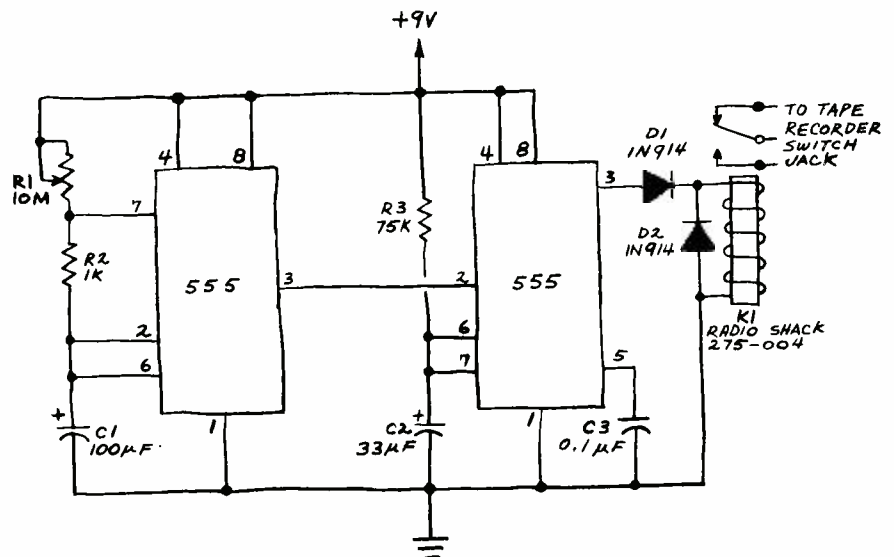
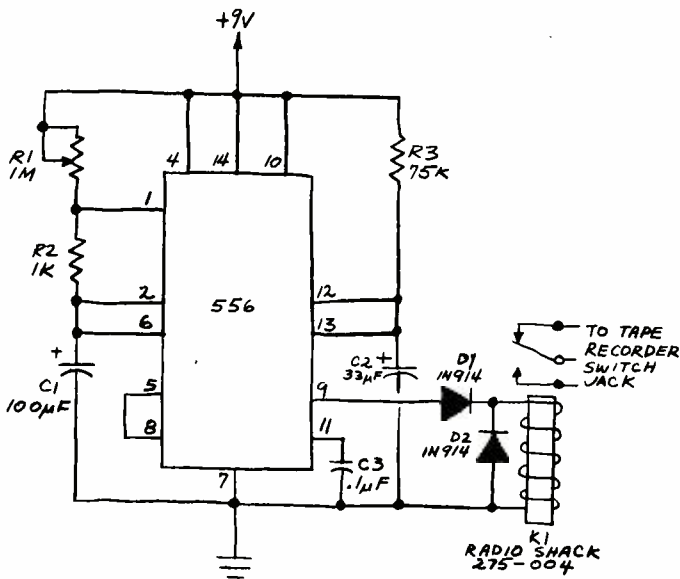

Fig. 3. Interval timer employs one 555 as an astable multivibrator to trigger a second IC operating as a monostable. Relay  $K1$  keys external circuit.
Fig. 4. This circuit, which employs a 556 dual timer, is functionally identical to the one shown in Fig. 3.
Figure 3 shows the schematic of a working dual-555 interval timer. Interval times (determined by the values of  $R1$  and  $C1$ ) of up to several minutes are achievable with the values shown. Note that the output pulse from the first 555 is directly coupled into the input of the 555 monostable. The output of the monostable is connected to a low-voltage relay coil through  $D1$ . Diode  $D2$  shorts out the powerful inductive kick produced across the relay coil when current to it is interrupted, thereby protecting the 555's output stage from damage.
The relay contacts can be used to switch many different circuits or devices on or off. Figure 3, for example, shows the normally-off contacts connected to the switch jack of a tape recorder. This jack is commonly found adjacent to the microphone jack on many cassette recorders. It allows the recorder
**556 Interval Timer.** The 556 is a pair of 555 timers on a single silicon chip. The circuit in Figure 3, as you might suspect, can be readily assembled with a single 556 dual timer rather than separate 555's. Figure 4 shows the functionally identical circuit.
The selected output of the XR-2240 is inverted by  $Q1$  and coupled through  $C4$  to the 555 monostable, a circuit essentially identical to the monostable in Figure 3. The timing period of the monostable is controlled by the time constant  $R6 C5$ .